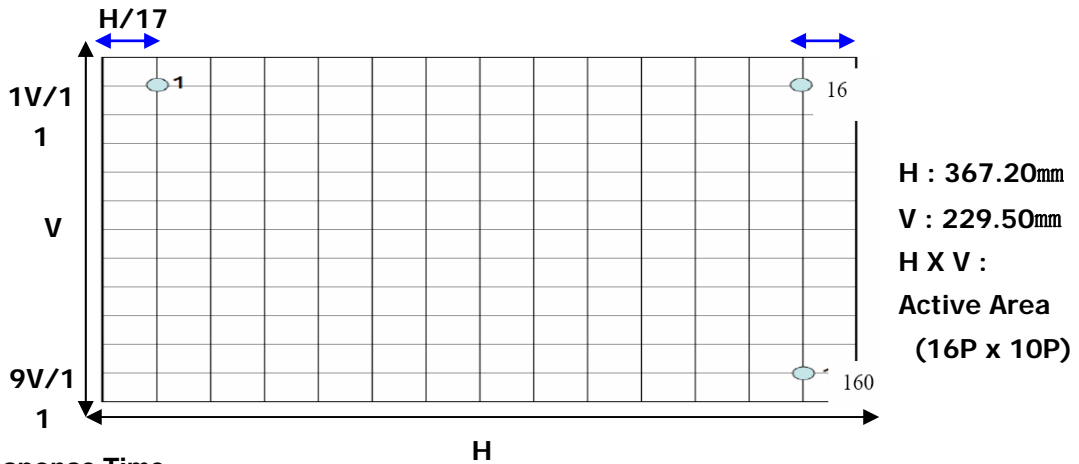

FIG. 3 Response Time
| Response time                                 |            | TrR + TrD | -                          | -         | 16       | 25     | ms                | Fig 3 |
2. Response time is the time required for the display to transition from white to black (rise time,  $Tr_R$ ) and from black to white(Decay Time,  $Tr_D$ ). For additional information see FIG 3.